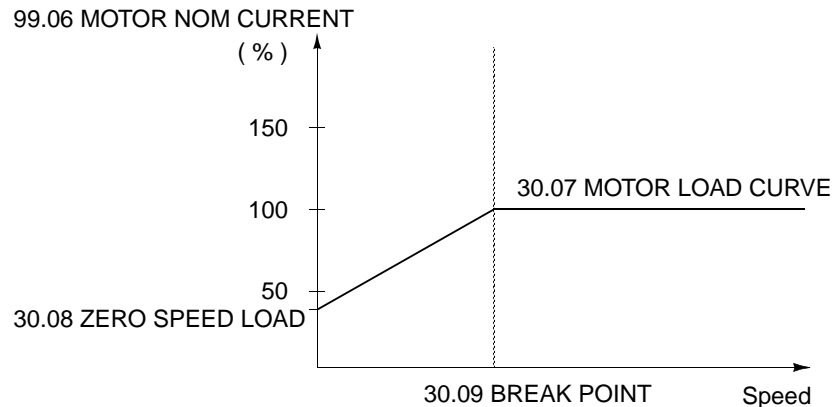

Figure 6-19 Motor Load Curve.
- Motor heating is calculated assuming a load curve (Figure 6-19). The motor will heat above nominal temperature if it operates in the region above the curve, and cool if it operates below the curve. The rate of heating and cooling is set by MOTOR THERM TIME.
30.09 BREAK POINT This parameter defines the point at which the motor load curve begins to decrease from the maximum value set by Parameter 30.07 MOTOR LOAD CURVE to the Parameter 30.08 ZERO SPEED LOAD. Refer to Figure 6-19 for an example of motor load curve.